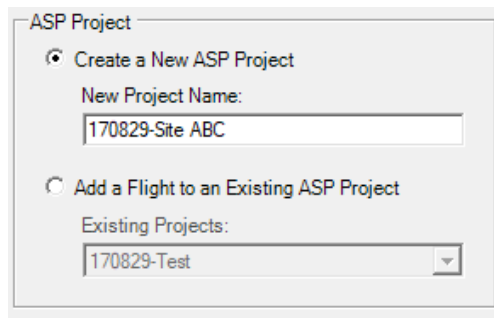

Figure 6 - Create a New ASP Project
3. Select *Create a New ASP Project* (Figure 6) and give it a name (ex. Date-Site Name)